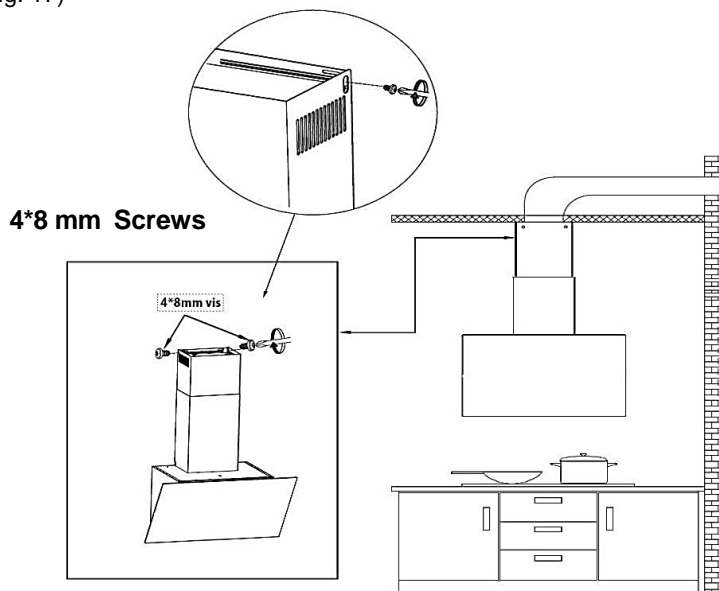

Fig. 17
16. Use two 4*8 mm Screws to assemble the Upper Chimney on the Upper Chimney Bracket. (see Fig. 17)